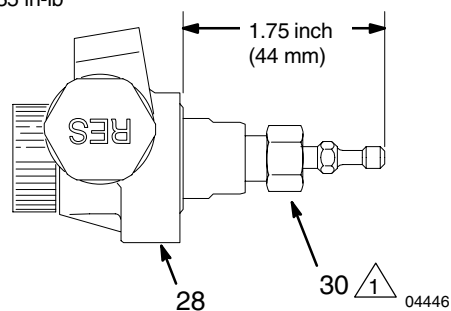

Fig. 8
7. Adjust the needle so it protrudes 1-3/4 in. (44 mm) from the rear of the housing. See Fig. 8.
8. Screw the nozzle retainer (30) snugly into the back of the housing. Torque to 25-35 in-lb (2.8-3.9 N.m) using the 1/2" end of wrench (35). See Fig. 8.